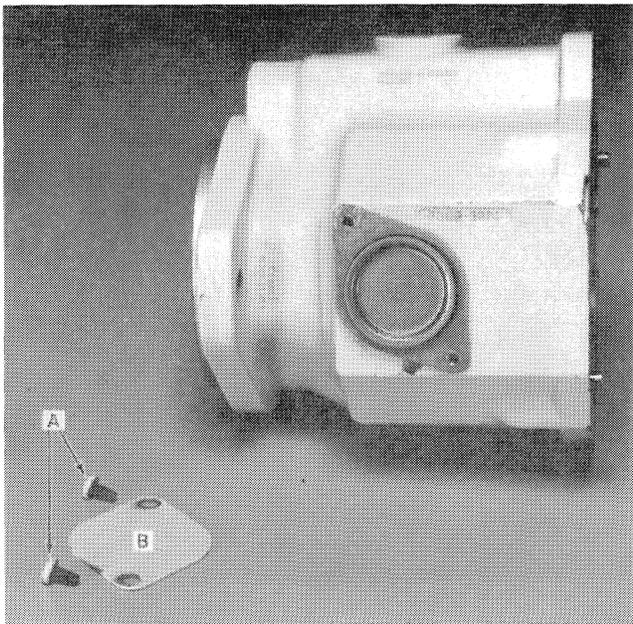

FIGURE 4-15
a. Remove the torx head screws, A, and cover plate, B, Figure 4-15.